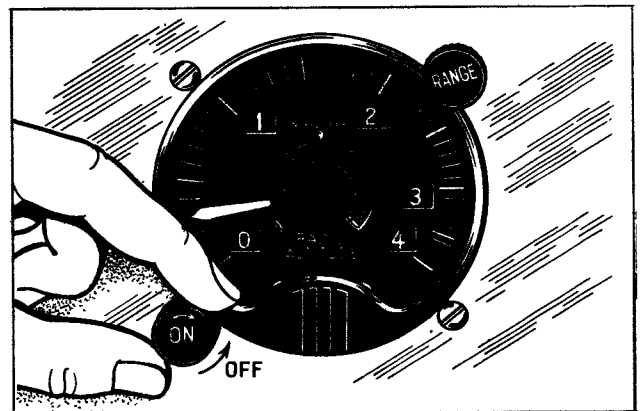

Figure 18—Operation of Power Switch—Stopping the Equipment
(1) If in AUTOMATIC flight, reset the changeover control for MANUAL operation, preferably while in stable flight at the pre-set altitude.
(2) Turn the power switch counterclockwise to the off position. See Figure 18.